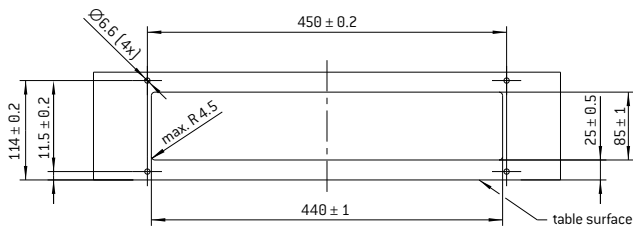
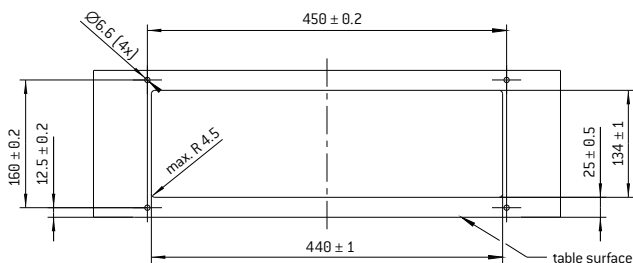

Fig. 111
Fig. 112
- For a customer housing, the dimensions listed in Fig. 111 for Size TWO and Fig. 112 for size FOUR must be observed for mounting the adapter [ITA].